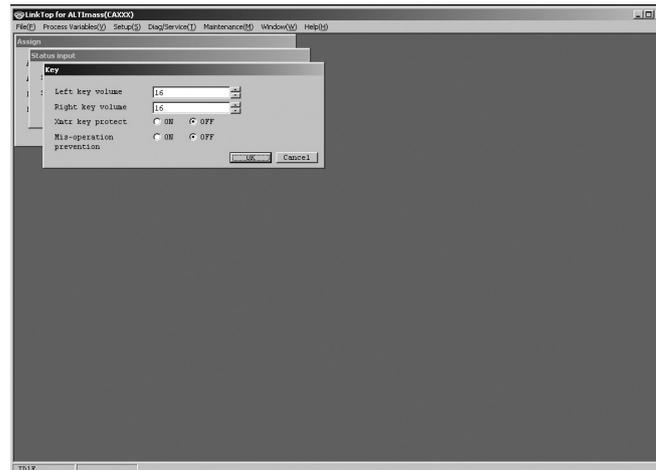

Fig.157
① Select "Cascade" to display these windows stacked, as shown in Fig. 157.